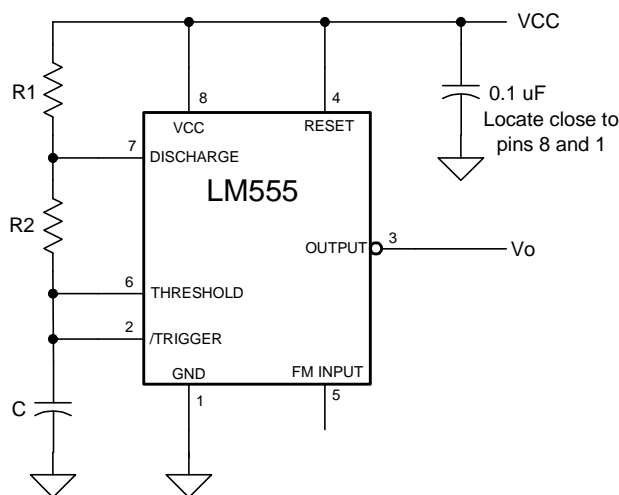

Figure 3: LM555 Oscillator
- 3.3 Build the circuit of Figure 3 using the results of step 3.2.